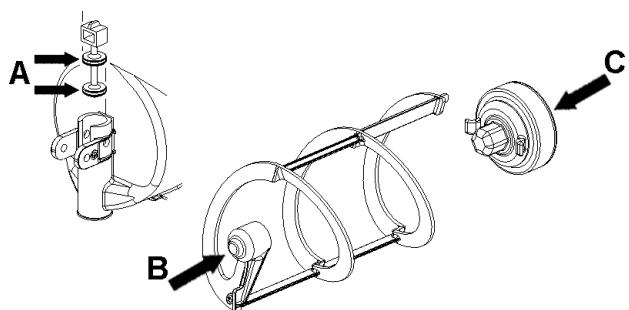

figure 11
- Lubricate faucet piston, outer spiral and outside magnetic rotor (see points A, B and C of figure 11) only with the grease supplied by the manufacturer or other food grade approved lubricant.